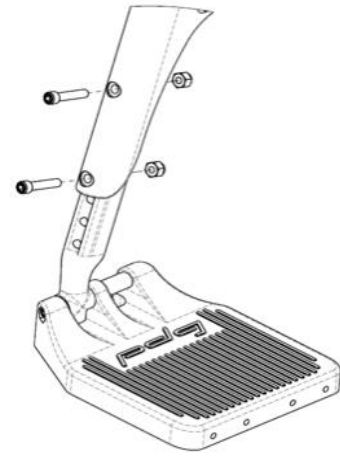

Figure 15.14: *Standard Swing-Away footrest height adjustment*
- a. Remove any padding and/or calf strap, if fitted. Remove the fastener and nut as shown in Figure 15.14.